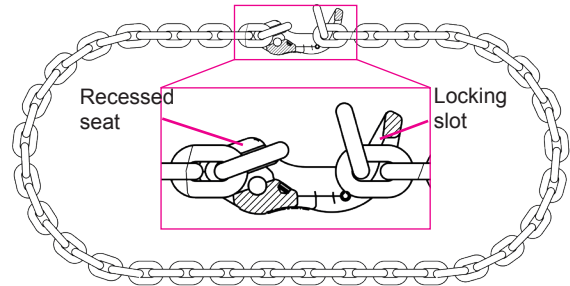

Fig. 11: Assembly casket chain
- For casket chains the shortest shortening possibility is as follows (fig. 11):